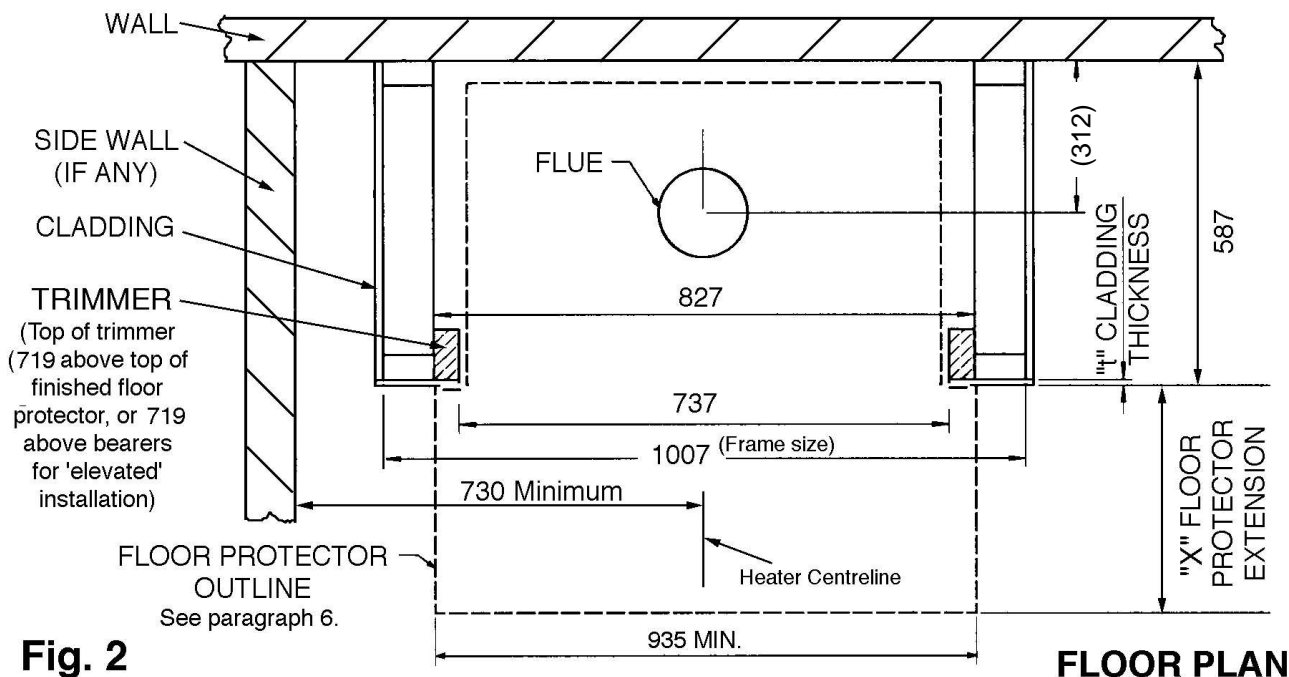

Fig. 2
1. Inspect the house construction at the proposed installation position to verify that the flue shield (250mm diameter, plus 25mm clearance all around) can pass right up through the ceiling space without requiring the removal of essential roof or ceiling support beams. The flue centreline will be 312 mm out from the rear wall and it must be at least 730mm distant from any side wall. (See Fig. 2).
6. For heat sensitive floors, construct a floor protector of the shape shown in the Floor Plan above (Fig. 2). (See SPECIAL CONSTRUCTIONS below for concrete floors). The standard floor protector is constructed of two layers of 6mm fibre cement board (such as Hardies Tile and Slate Underlay), topped with a layer of tiles or slate. This will give a thickness of approximately 20mm, and the extension from the face of the front cladding must be at least 412 mm. The floor protector must be at least 935 mm wide, but you may prefer to increase this size to match the fascia width (967 mm).